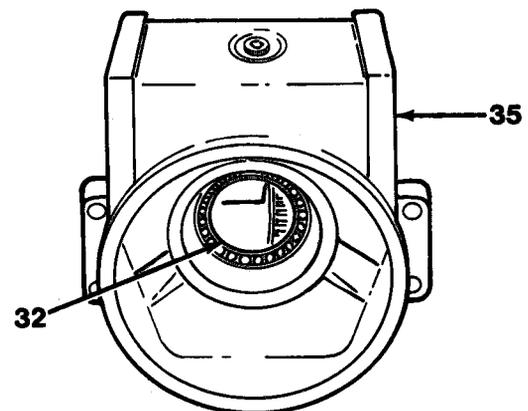

Figure 15-12
21. Using hammer and punch, remove two bearing cups (32) from housing (35, Figure 15-12).
2. Install two bearing cups (32) in housing (35, Figure 15-12).